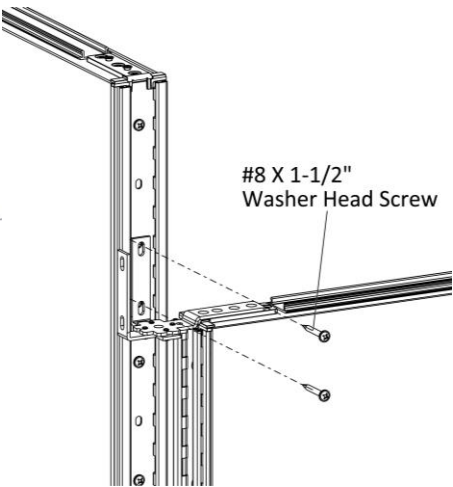

Figure 4
- 7. Drive two #8 X 1-1/2" Washer Head Screws through the holes in the intermediate panel connector into the taller panel, (Figure 4).